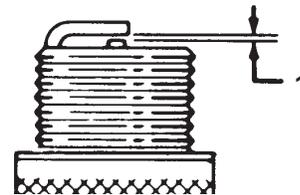

Figure 29
6. Set the gap between the electrodes on the spark plug at 0.030 in. (0.76 mm) as shown in Figure 29.